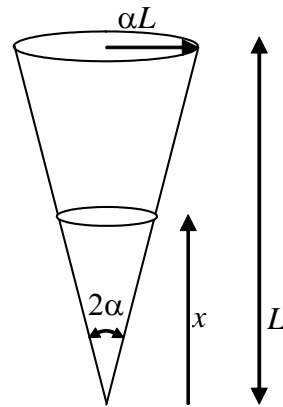

Figure 2
4. The Ansell Adams photo below (Fig.2) shows stalactites (calcite needles hanging down from caves) in New Mexico. Their failure due to self weight loading is to be modelled using Weibull statistics. The geometry of the stalactites is idealised as a cone of length L and semi-angle α . The cone angle is assumed small so that the base radius equals αL . The stalactite density is ρ .